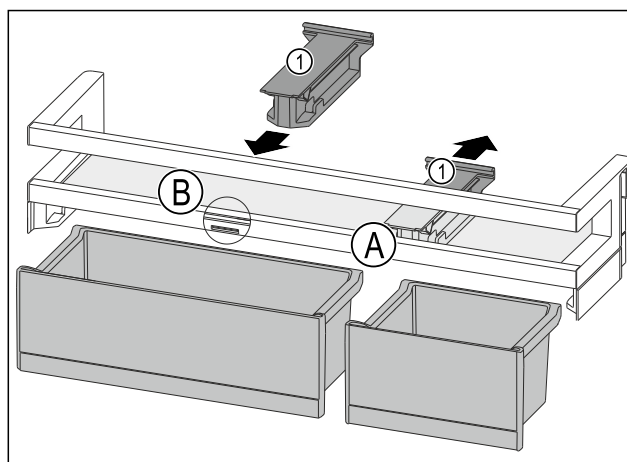

Fig. 87
- ▶ Take off the holding part Fig. 87 (1) in position Fig. 87 (A) backwards.
- ▶ Insert the holding part Fig. 87 (1) in position Fig. 87 (B).